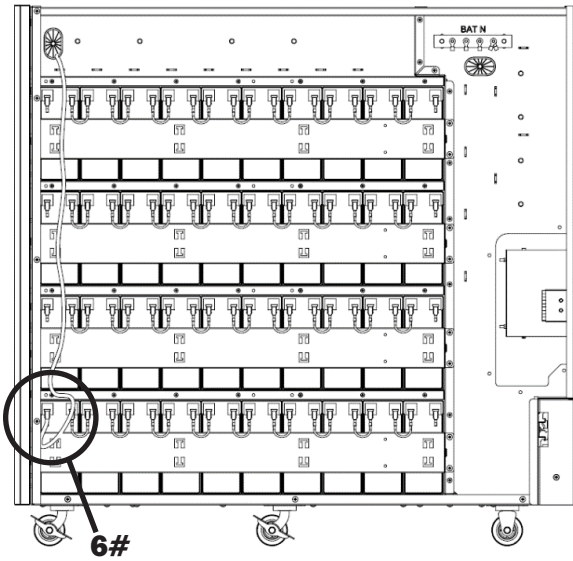

Figure 5-16B
22. Connect group 1 battery 20- to - battery bus bar (BAT -) (Figure 5-16B).